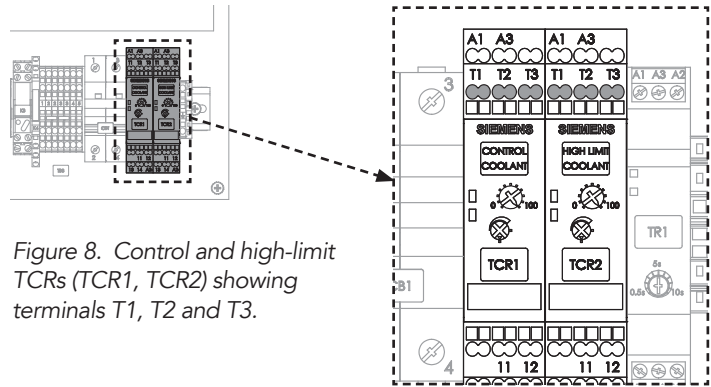

Figure 8. Control and high-limit TCRs (TCR1, TCR2) showing terminals T1, T2 and T3.
3. Using the ohmmeter, measure the resistance between TCR terminals **T1** and **T2** (See Figure 8):